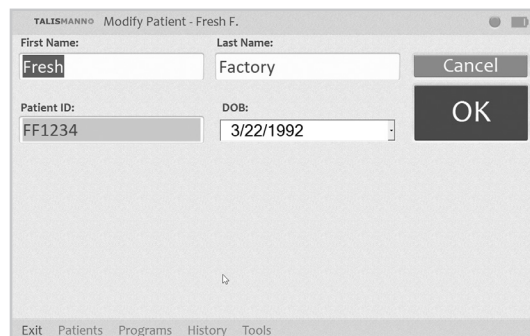

Figure 8-5: Modifying a Patient Record
2. Enter changes to the patient’s first or last name, and then press the “OK” button. See Figure 8-5.